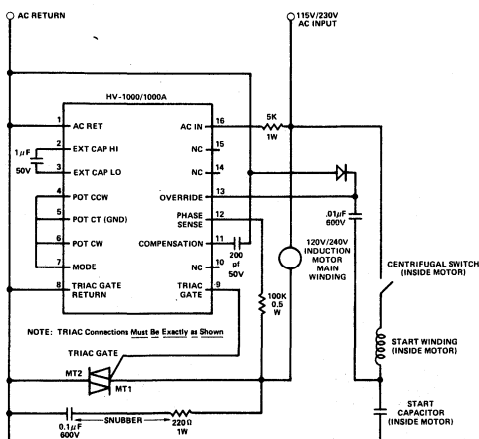

Figure 9.
- a) If a motor is driving a light load, so the time constant capacitor is fully charged, and switched off momentarily while a full load is applied; then, when the motor is switched on again, the HV-1000 may "soft start" for a fraction of a second. This tendency can be minimized by using a larger time constant capacitor and by increasing the load anticipator sensitivity with an external potentiometer or resistor. If the behavior is frequent and totally unacceptable, a complete fix is to use the application circuit for electronic override shown in Figure 9. Here the 100kohm resistor which sends the line voltage to pin 13 is replaced by 0.01μF to the start capacitor of the motor. Thus all the time the starter winding is operating, the HV-1000 is commanded to full voltage, guaranteeing a full power start. Since the start capacitor terminals may be inside the motor, this circuit is best suited for motor manufacturers.